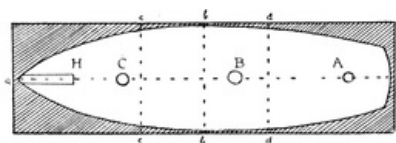
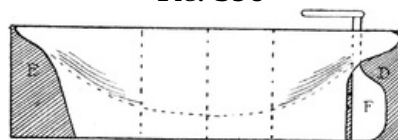

FIG. 396
FIG. 397
**A Schooner** (Plate IV). On a suitable piece of wood (a square prism, length 3½ times width) draw a line a a (Fig. 396) on the surface through the middle from end to end. Then draw a line across the middle b b, and divide the surface in three by lines c c and d d. Pencil out the deck as in Fig. 396. Now here is a piece of advice that it is well to follow in all boat-making. To mark off the deck make a cardboard template the shape and size of one half, taken from the middle line, a a. Lay the template on one half of the piece of wood and pencil round the edge. Then turn the template over on the other side and pencil round the edge again. In this way the shape of the deck is more accurate and both sides are symmetrical, which is very important if the boat is to float upright in the water. Now on the sides draw the elevation as in Fig. 397.
as described before. Next make the deck from deal about 1/8 inch thick, cutting it the exact size of the outline in Fig. 396. Before fastening the deck, bore a hole at A for the rudder (a corresponding hole being bored in the hull), and holes at B and C for masts (with corresponding holes, not more than 1/4 inch deep, in the hull). If need be (in large models) the under part of the deck where holes come can be strengthened by pieces of wood nailed across. With a hard pencil draw lines along the deck to
H in Fig. 396 shows where the end of the bowsprit comes.